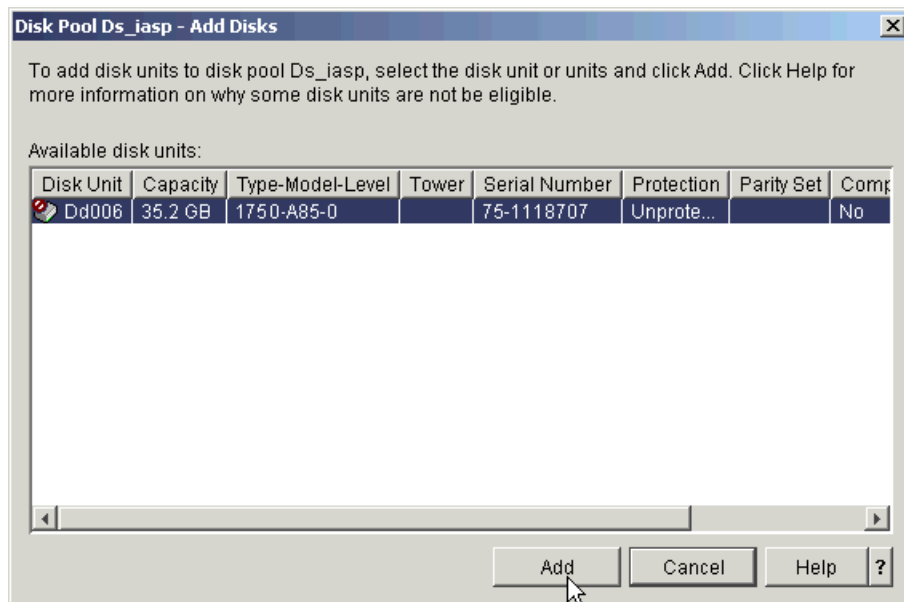

Figure B-15 Choose the disks to add to the Disk Pool
10. A list of non-configured units similar to that shown in Figure B-15 will appear. Highlight the disks you want to add to the disk pool and click **Add**.